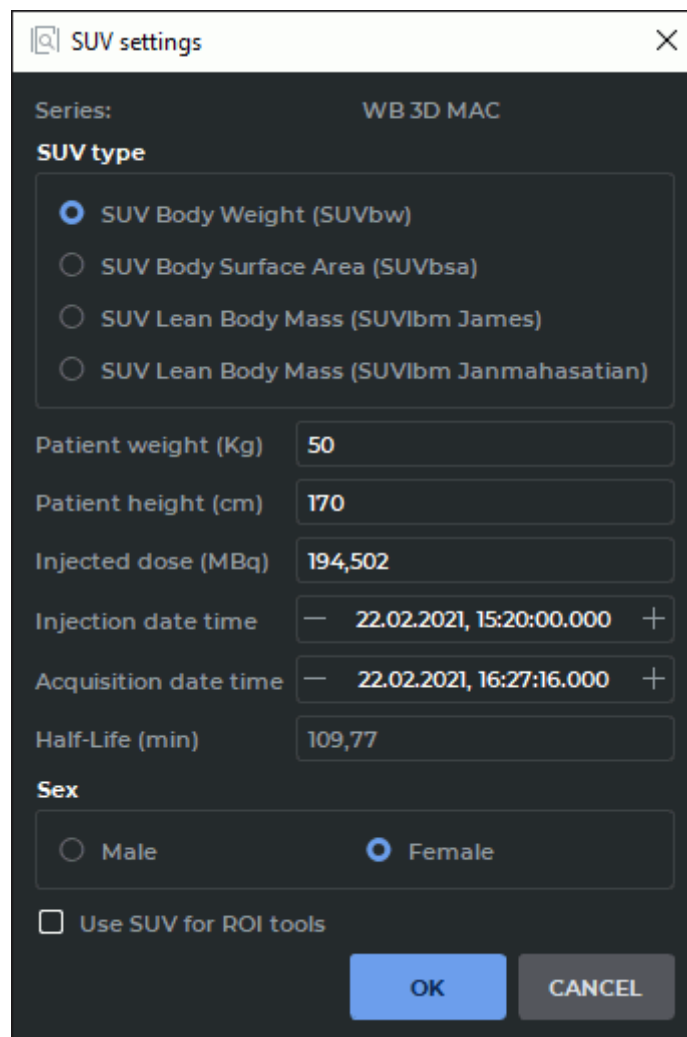

Figure 2.74: SUV Settings
4. If the data contained in the study is insufficient, then the dialog shown in Fig. 2.74 appears. Specify the following data: